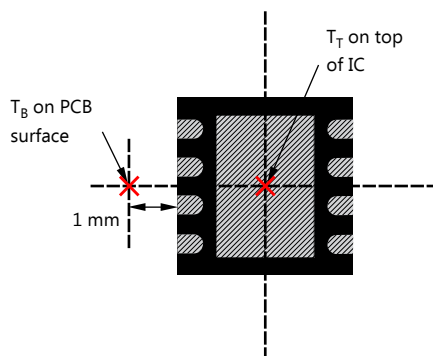

Figure 23. Measuring Points for T_T and T_B
- T_B is the PCB temperature measured 1 mm away from the device package on the PCB surface (as shown in Figure 23).